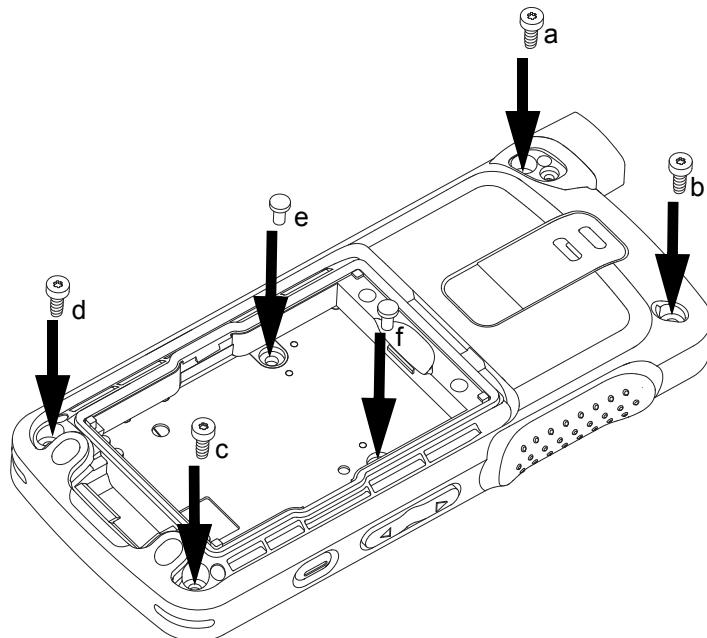

Figure 5-29. Self tapping screws and machining screws reassembly
2. Using a torque wrench, screw in the self tapping screws at all four corners from back housing marked (a, b, c, d) by using the 6IP Torx Plus as shown in Figure 5-29.
3. Using a torque wrench, screw in the two machine screws in the battery compartment of the back housing marked (e and f) by using the 6IP Torx Plus as shown in Figure 5-29.